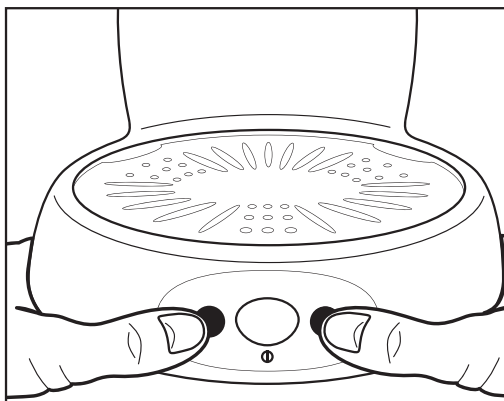

FIGURE 8
9. Press the Power Light/Indicator Button to turn power on, then simultaneously press the 5-Ounce Serving and 8-Ounce Serving Buttons, see Figure 8.